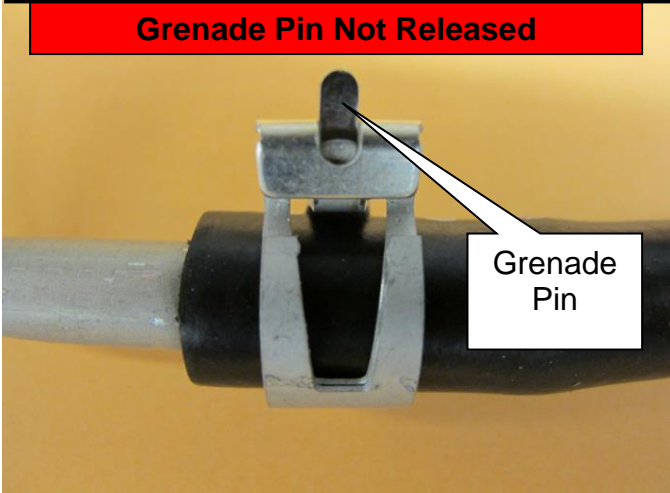

Figure 7
- Grenade pin not released (Figure 7).